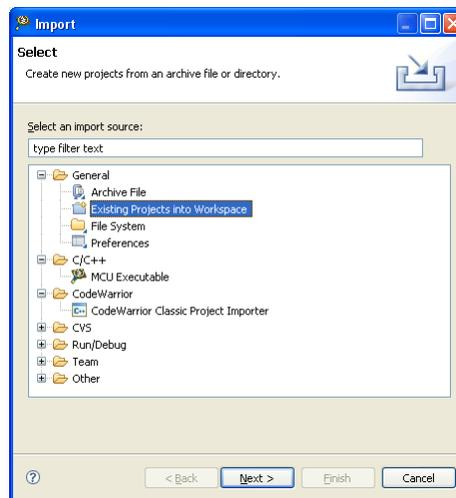

Figure 2-19. CodeWarrior Import Existing Project into Workspace
3. Select Existing Projects into Workspace as shown in Figure 2-19.